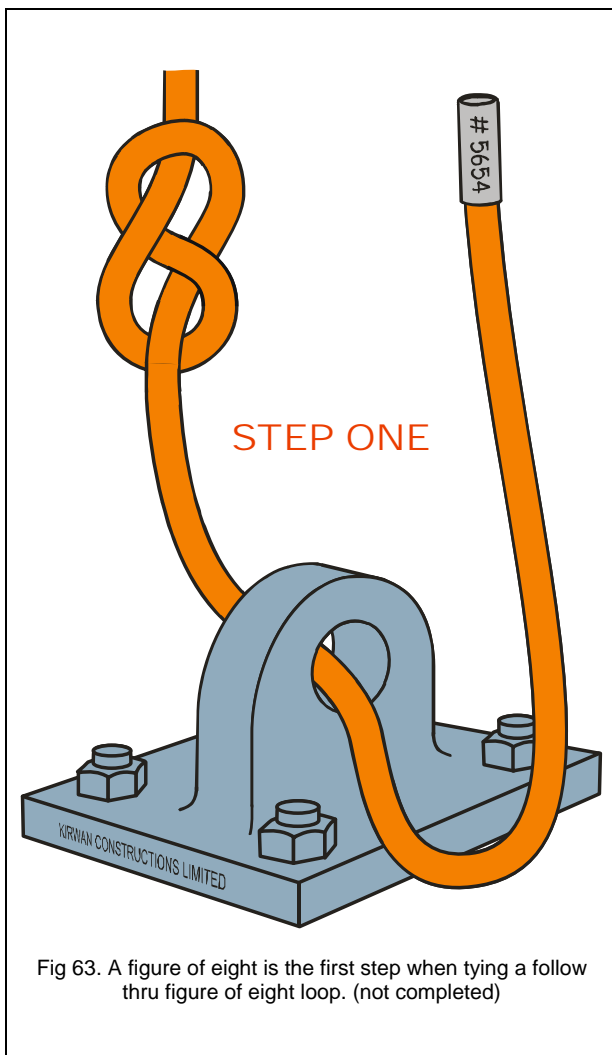

Fig 63. A figure of eight is the first step when tying a follow thru figure of eight loop. (not completed)
- Forms the first step when tying a follow thru figure of eight loop as shown *in figure 63*.
The example *in figure 63* shows the first step of tying a follow thru figure of eight loop. A figure of eight is tied prior to the line being threaded into position. The follow thru figure of eight loop must then be completed, dressed and packed before use.